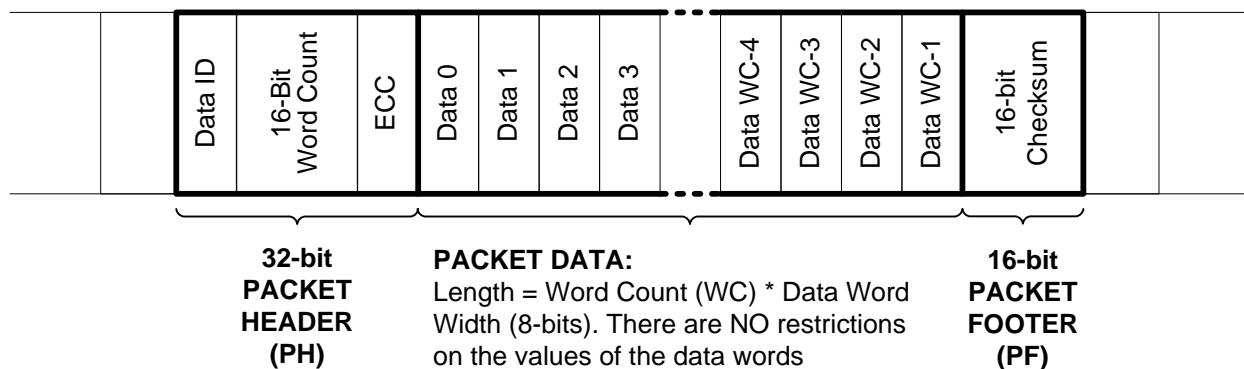

图 6. CSI-2 Long Packet Structure
A long packet consists of three elements: a 32-bit packet header (PH), an application-specific data payload with a variable number of 8-bit data words, and a 16-bit packet footer (PF). The packet header is further composed of three elements: an 8-bit data identifier, a 16-bit word count field, and an 8-bit ECC. The packet footer only has one element—a 16-bit checksum. 图 6 shows the structure of a long packet.